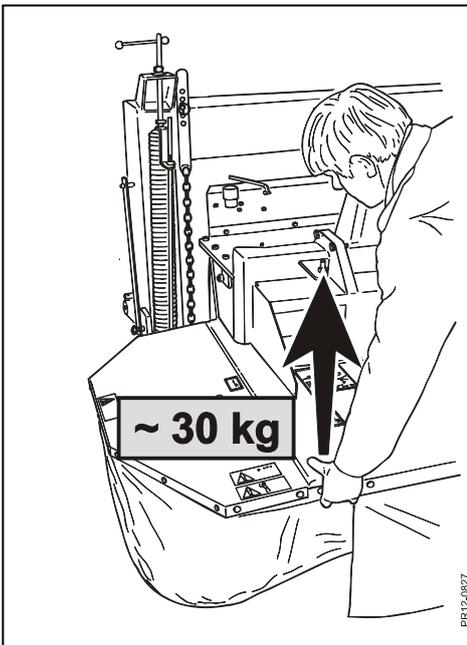
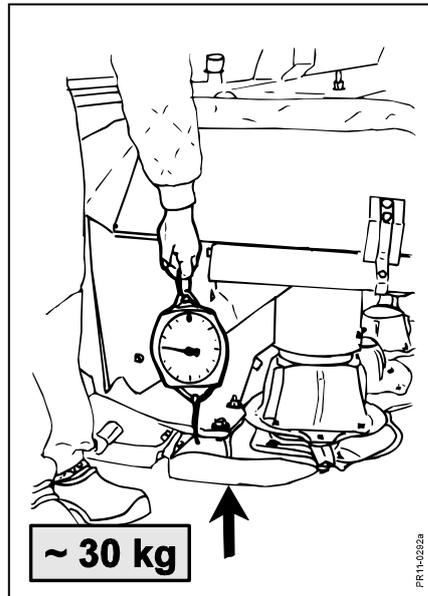

Fig. 3-10
Fig. 3-11
The stubble height is continuously adjustable by adjusting the inclination of the cutter bar and the adjustable guide shoes (Fig. 3-10).
- Fig. 3-10**      In principle the spring adjustments can be adjusted in such a way that the cutter bar is floating.
- Fig. 3-11**      For instance first you tighten the springs adjusting the lift power of the cutter bar to **30-40 kg on each side**. (See Fig. 3-10, or Fig. 3-11 where a spring weight is used as help).